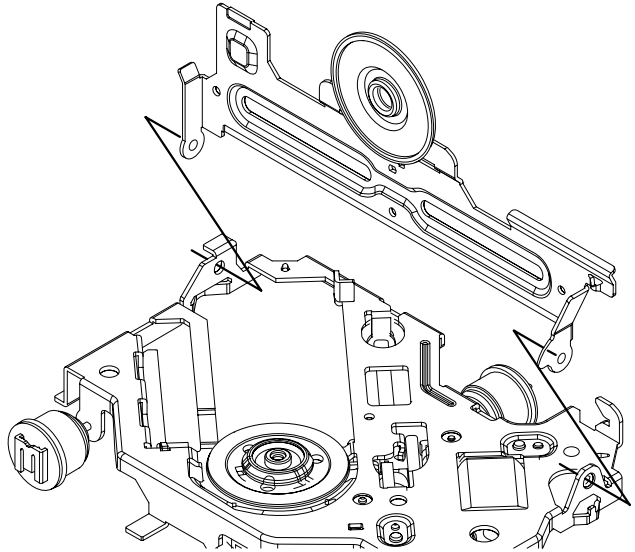

Fig.9
- (2) Remove the HC CL. base from the holes on the TM base. (See Fig.9)